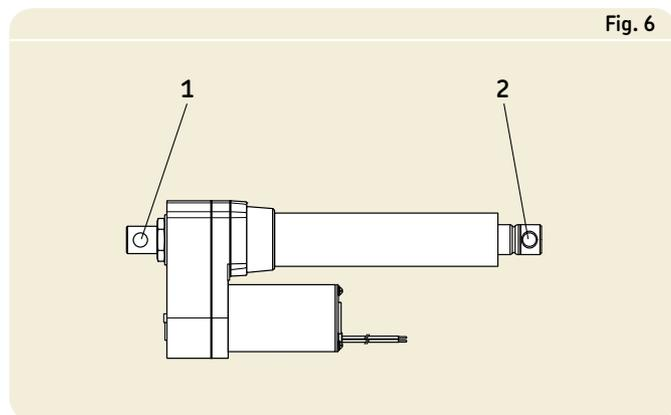

Fig. 6
- 1 Connect the hinge heads (**1** and **2**, **Fig. 6**) to the appropriate elements of the application with the fastening bolts.